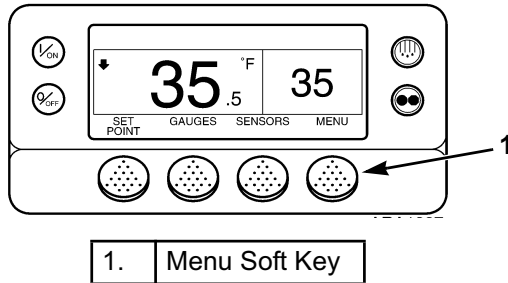

Figure 60: Standard Display
2. Press the **MENU** soft key on the Standard Display. See Figure 60.